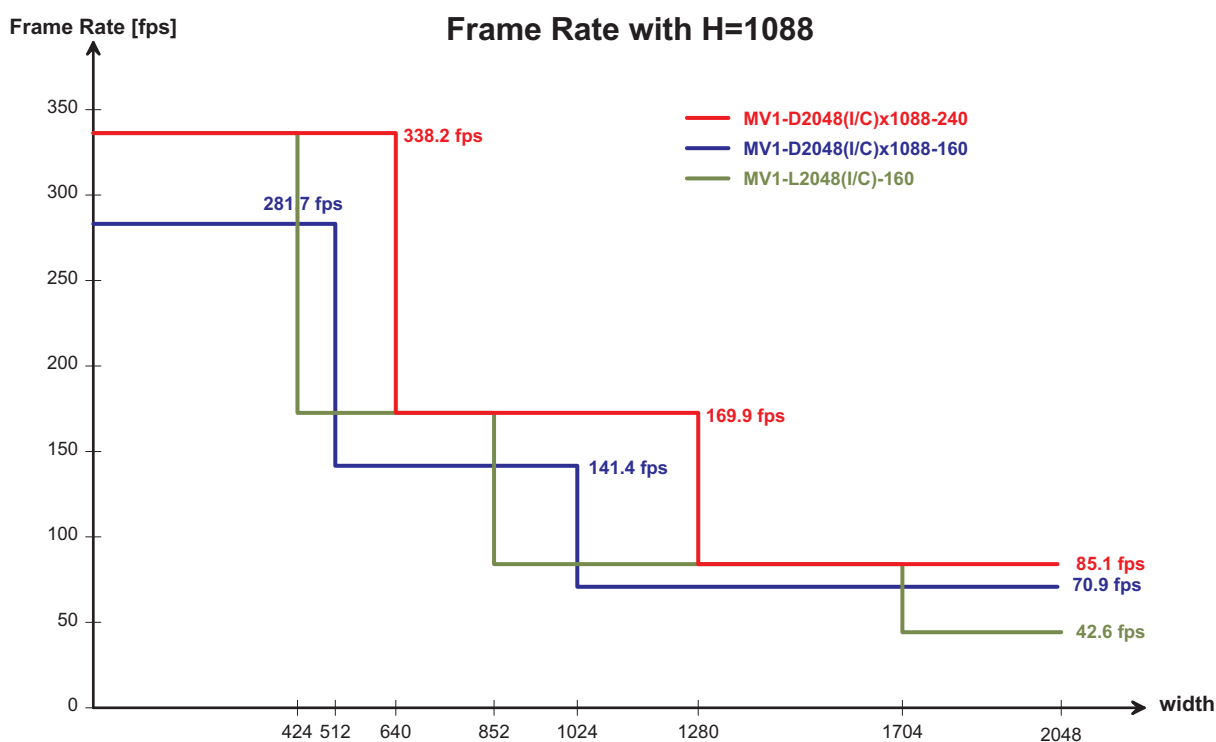
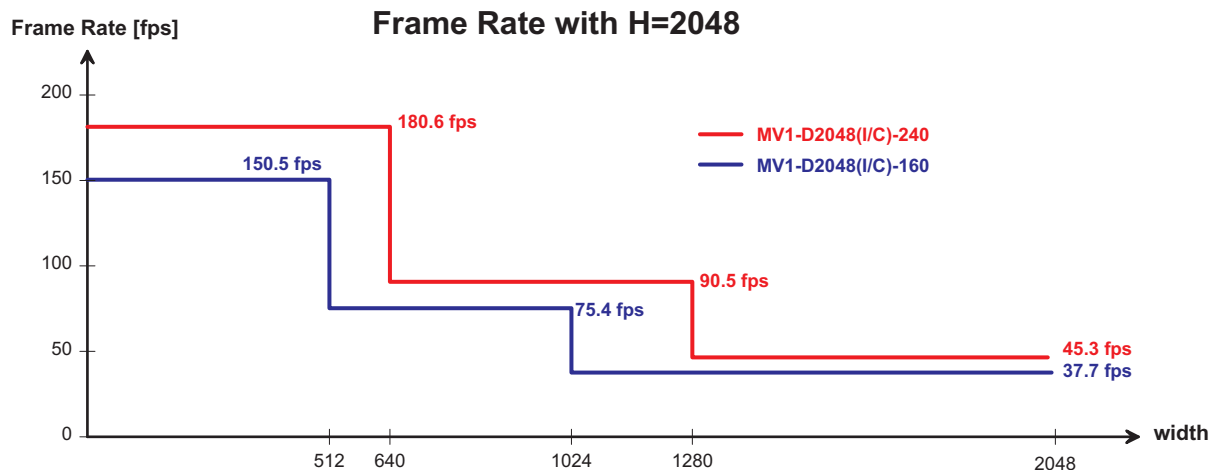

Figure 5.1: Frame rate in function of ROI width at H=1088
Figure 5.2: Frame rate in function of ROI width at H=2048
Reduction in width also results in a frame rate increase. The increase is not linear but in steps (see Fig. 5.1 and Fig. 5.2).
- ROI width: a smaller width ROI can lead to an increase in the maximal frame rate, but only in steps (see Fig. 5.1).